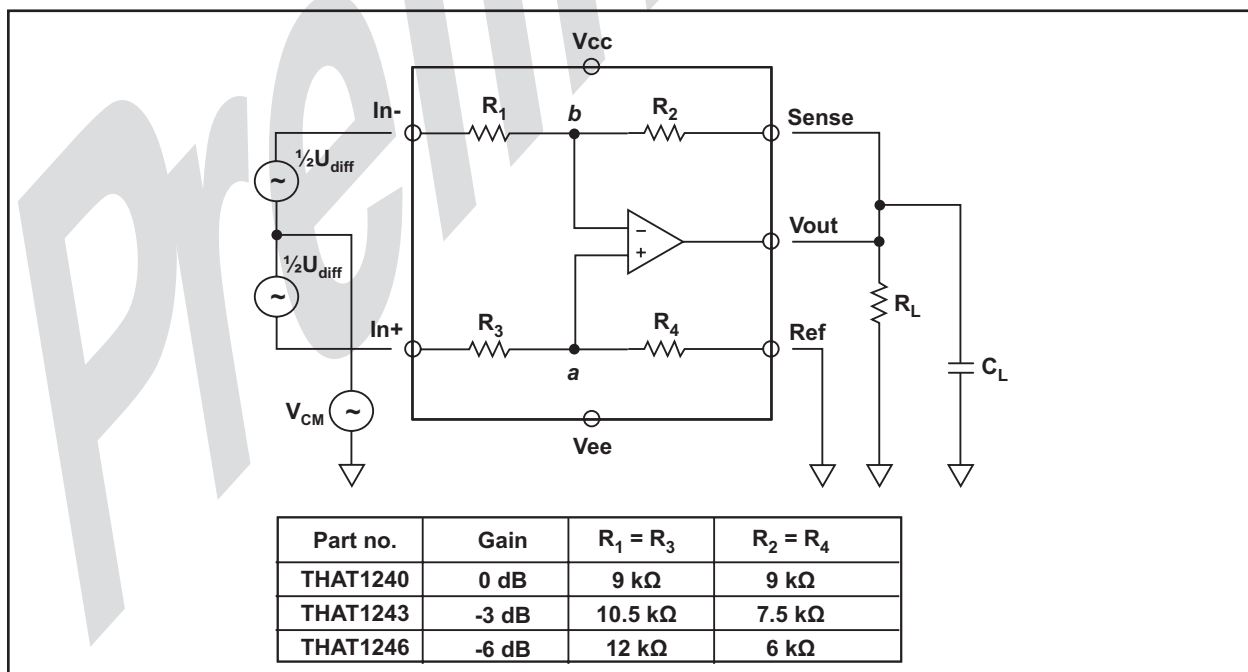
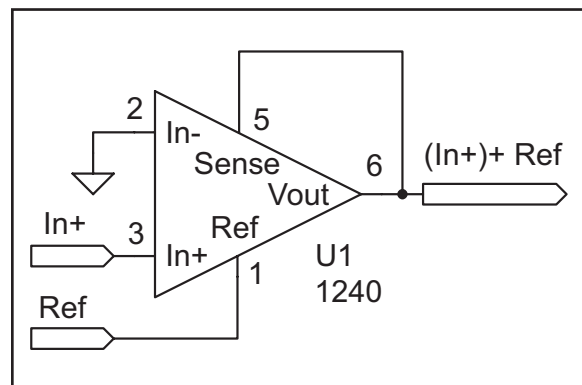

Figure 2. THAT1240 series test circuit
Figure 5. Precision summing circuit
4. See test circuit in Figure 2.
Like other amplifiers of this type, all of THAT Corporation's line receivers can accept common mode voltages that exceed the power supply rails. Consider Figure 2. Assume that the circuit is configured as shown, but with no differential excitation. In+ and In- are shorted together, as are Vout and Sense. Ref is tied to ground. a and b will be held at the same voltage by feedback.
Figure 5 shows a THAT 1240 configured as a precision summing amplifier. This circuit uses both the In+ and Ref pins as inputs. Referring to Figure 2, it can be shown by superposition that the voltage at a will be